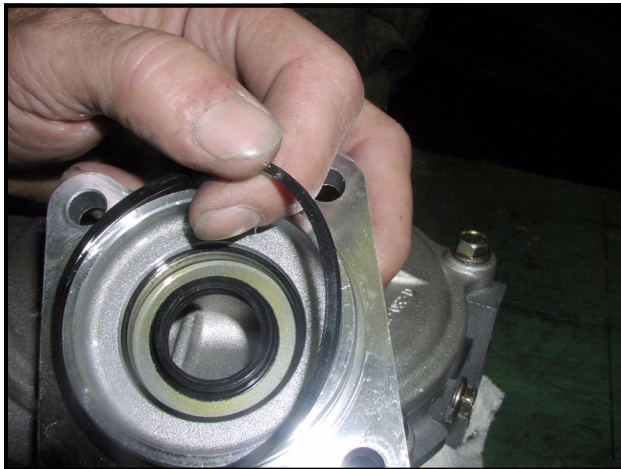

Figure 9-26 Input Cover Plate O-Ring Seal
12. Inspect the O-ring seal for damaged areas (**Figure 9-26, Page 9-9**).